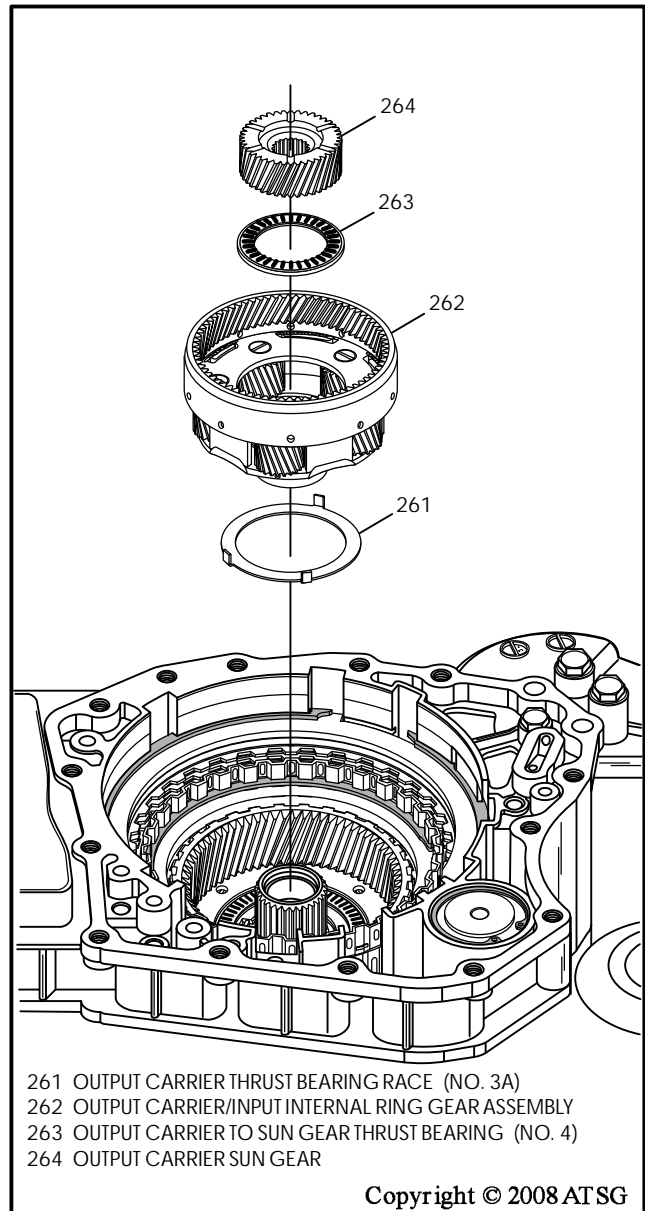

Figure 56
63. Remove the output sun gear, number 4 thrust bearing and output carrier assembly, as shown in Figure 56.
64. Remove the number 3A thrust bearing race, as shown in Figure 56.